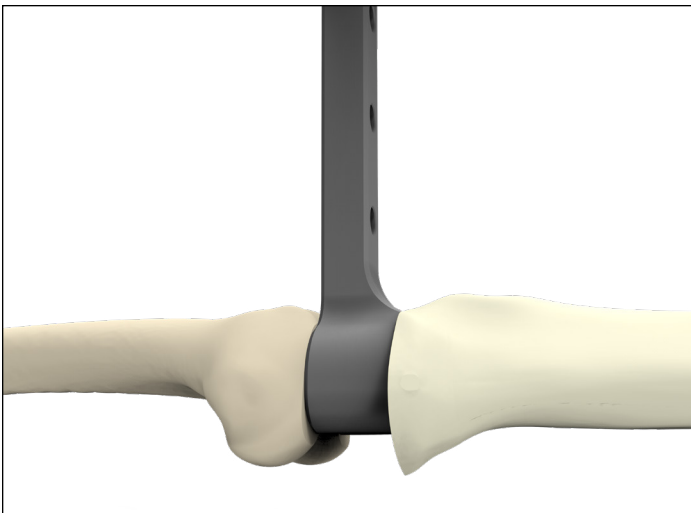

Figure 77
- ▶ **Note:** The spacer block may be used again to check the extension gap to confirm the proper resection depth has been taken (**Figure 77**).